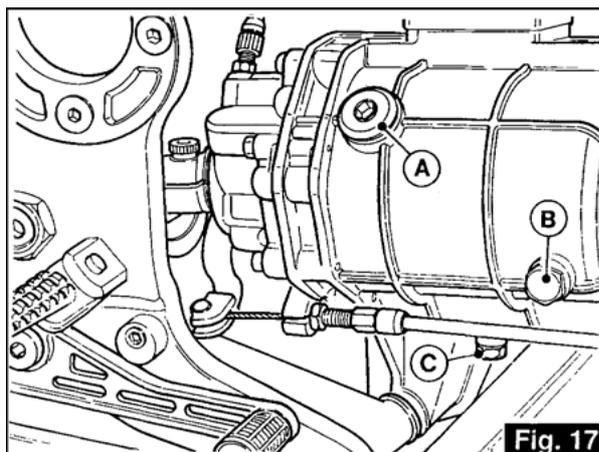

Fig. 17
4.3 LUBRIFICATION DE LA BOÎTE DE VITESSE (fig.17)